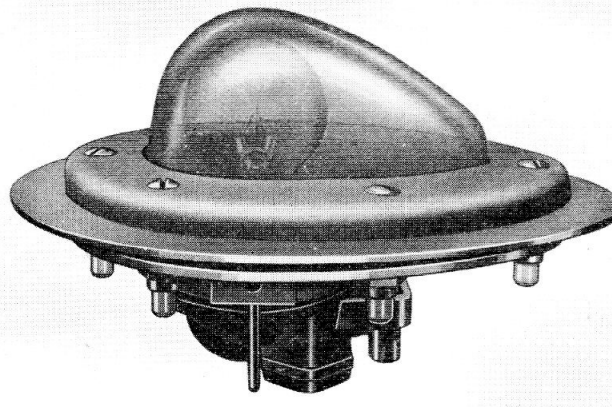
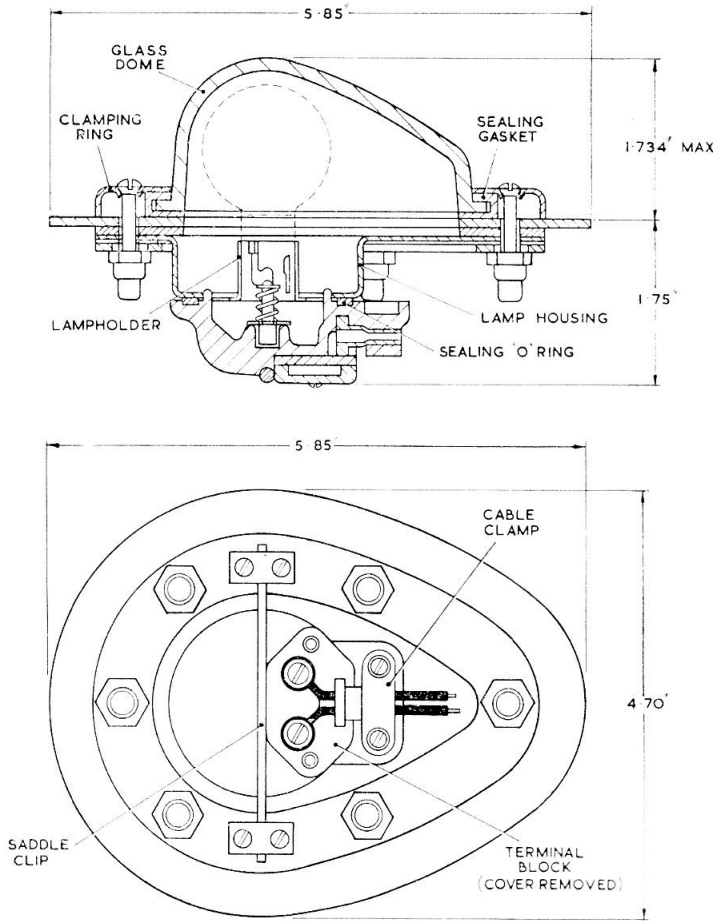

Fig. 1. *Fuselage navigation lamp, Type FNL/50*
Fig. 2. Sectional view
2. A general external view of the lamp is shown in fig. 1 while a sectional view is shown in fig. 2. The lamp filament is housed within a clear glass dome which is held in place by an aluminium clamping ring and sealed against air leakage by a double gasket.